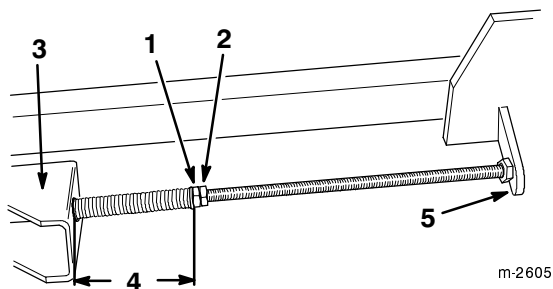

Figure 40
- Loosen the jam nuts on the adjusting shafts to relieve the tension on the drive belt, then remove the worn drive belt from the pulleys (Fig. 40).